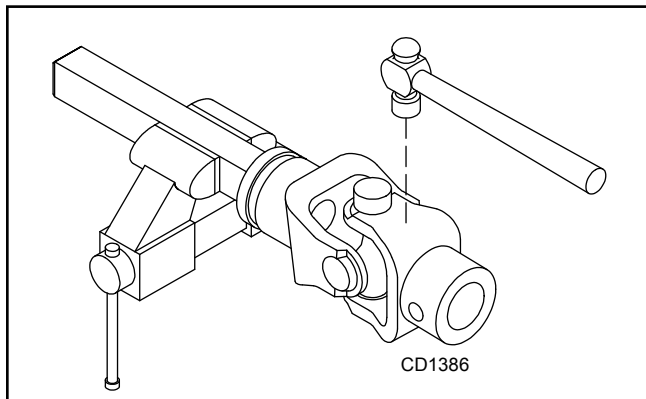

Figure 23.
2. With snap rings removed, support drive in vise, hold yoke in hand and tap on yoke to drive cup up out of yoke. See Figure 23.